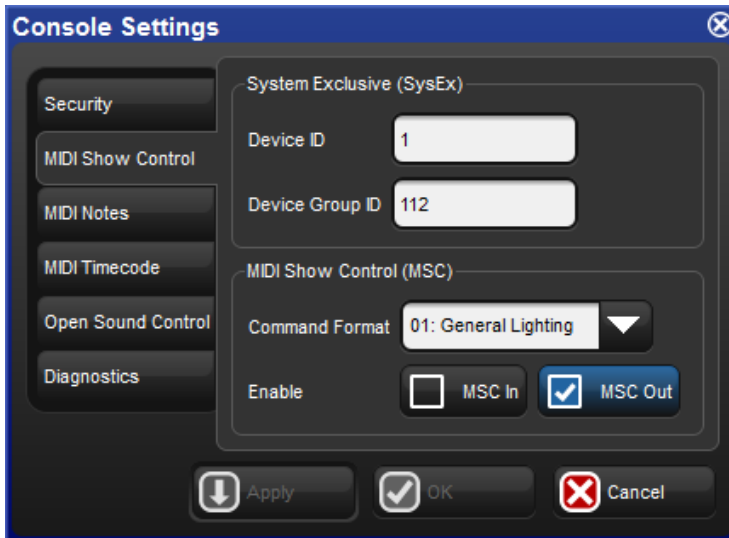

Figure 18.1. The MIDI pane of the Console Settings window
5. Settings : open the Settings window; see *Figure 18.1, "The MIDI pane of the Console Settings window"*.